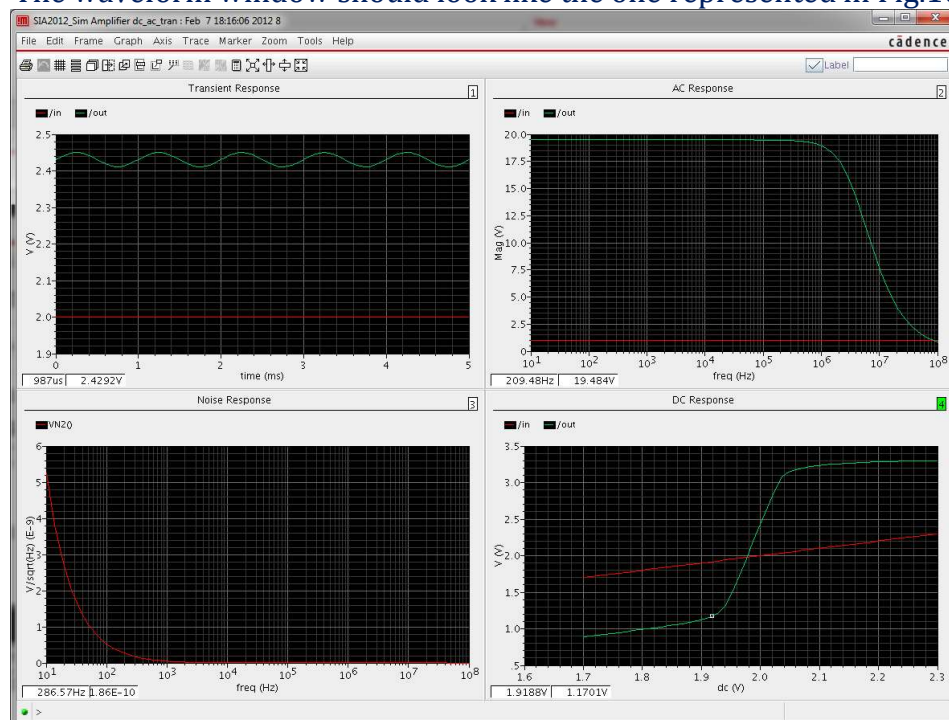

Fig. 10: Waveform Window
6. The waveform window should look like the one represented in Fig.10.